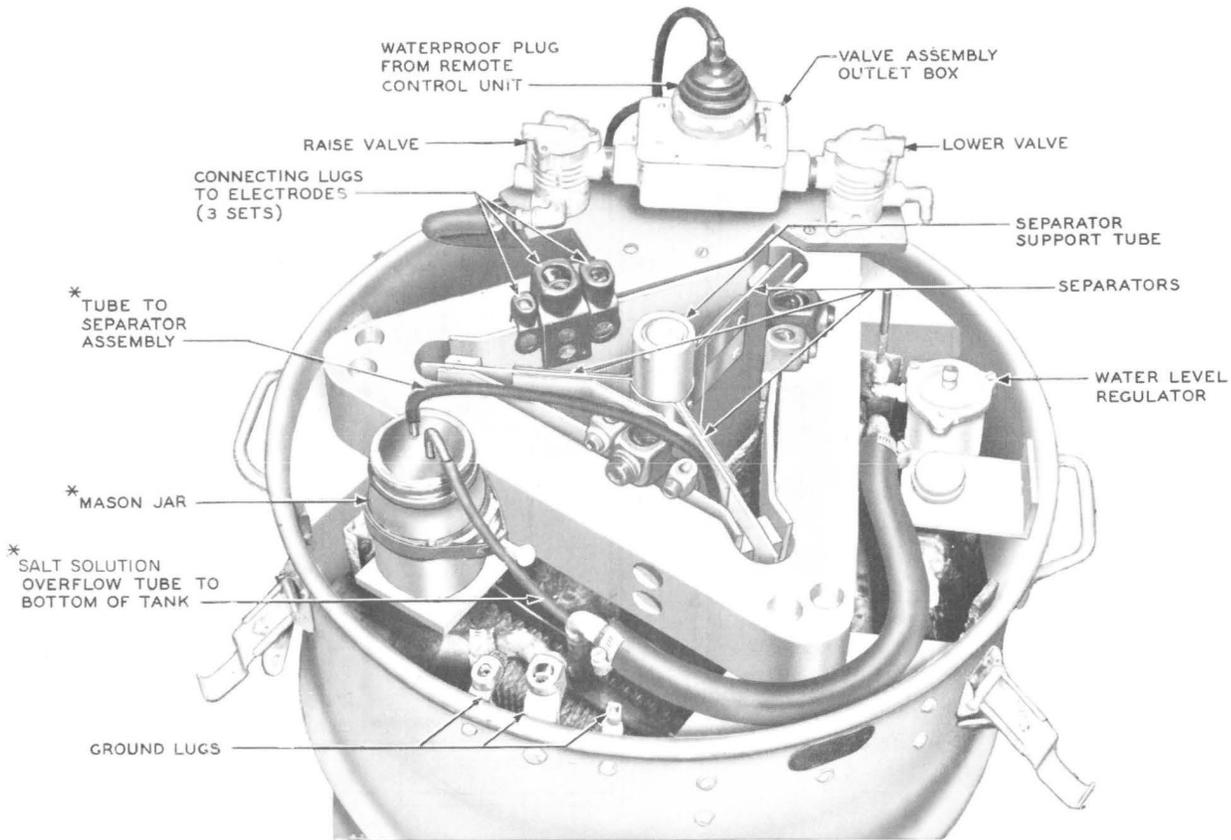

Fig. 18 — R-3104 120-KW Water Rheostat — Top View
6.22 The remote control unit is used to raise and lower the separators. One end plugs into the waterproof socket of the valve assembly located on the top of the barrel. See Fig. 18. The
6.26 To operate the water rheostat, insert the three prong waterproof plug from the remote control unit into the outlet box on the valve assembly located on top of the rheostat. See Fig. 18. Plug in the power cord of the remote control unit to a convenient 115-volt ac supply and then slowly turn on the water supply